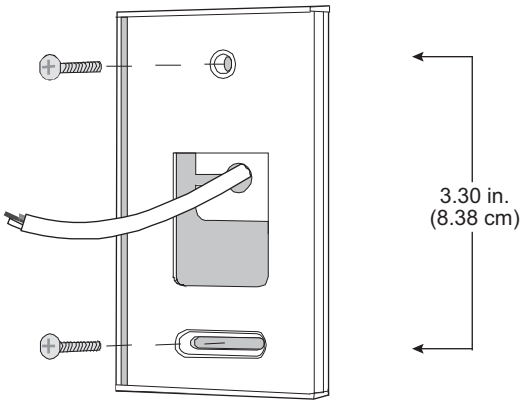

Fig. 63 — Rnet Cable Installation
5. Use 2 screws to mount the back plate to the wall or outlet box. See Fig. 63.